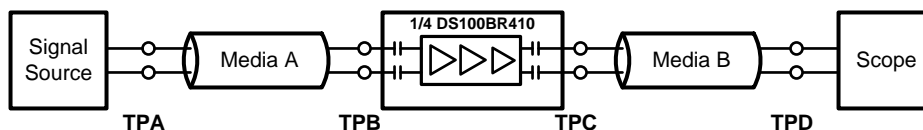

Figure 1. Test Setup Diagram
(3) Measured with clock-like {11111 00000} pattern.
(4) Measured with clock-like {11111 00000} pattern.
(5) The de-emphasis level of -3 dB, -6 dB, -9 dB are for V_{OD} = 1.2 V_{p-p}. At lower V_{OD} level, the de-emphasis levels are reduced.
(6) Random jitter contributed by the equalizer is defined as sqrt(J_{OUT}² - J_{IN}²). J_{OUT} is the random jitter at equalizer outputs in ps-rms, see point C of Figure 1; J_{IN} is the random jitter at the input of the equalizer in ps-rms, see point B of Figure 1.
(7) Deterministic jitter is measured at the differential outputs (point C of Figure 1), minus the deterministic jitter before the test channel (point A of Figure 1). Random jitter is removed through the use of averaging or similar means.